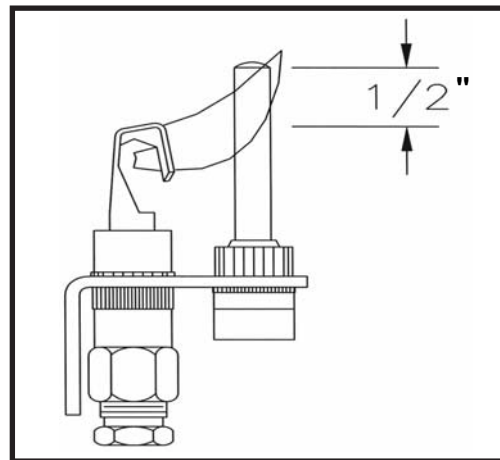

FIG. 38B Pilot Flame on Thermocouple
9. Pilot Flame Adjustment Procedure - The pilot flame should envelop 3/8" to 1/2" (10 to 13mm) of the tip of the thermocouple (see Figure 38B).